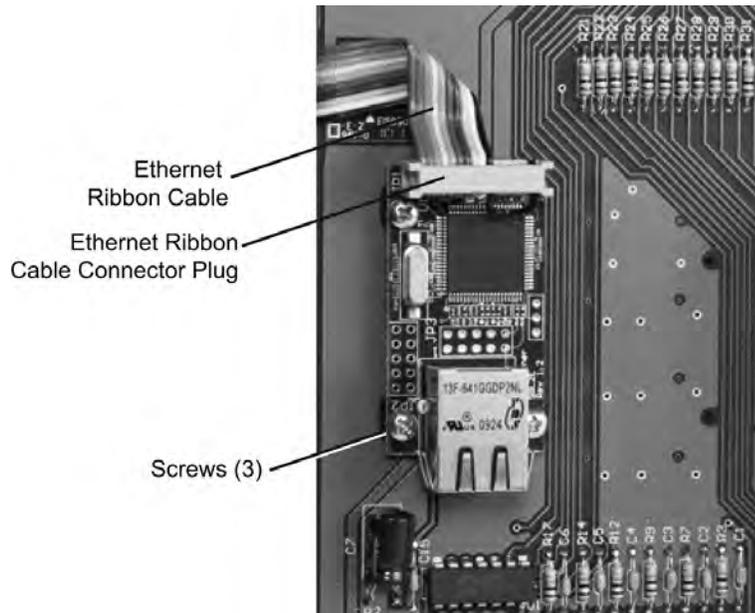

Figure 4. Removing the Ethernet Module.
12. Connect the ribbon cable connector plug to the applicable terminal connector. See Figure 4.